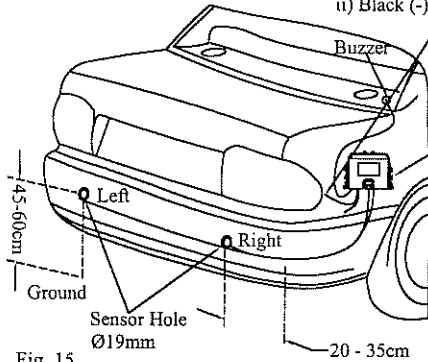

Fig. 15
1. Measure from both corners of the rear bumper and mark a horizontal distance of 20cm ~ 35cm for both left and right sensors. (Fig. 15)
2. Measure from the ground level a distance of 45cm ~ 60cm to indicate the final position of the sensors. (Fig. 15)
4. Drill two 19mm diameter through holes on the bumper markings. (Fig. 15)
5. Insert the left and right sensors into the 19mm diameter sensor holes respectively. (Fig. 15)